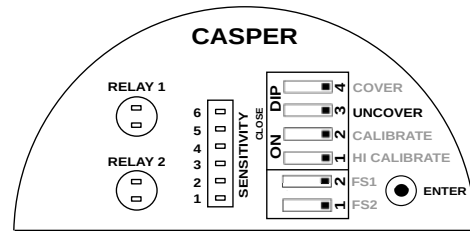

Figure 16: Saving Uncover Delay
- Uncover Delay is entered, but not saved. To save and test the Uncover Delay, set the UNCOVER switch back to OPEN position as shown in figure 16. The STATUS LED of Relay 1 will come back to its original position.